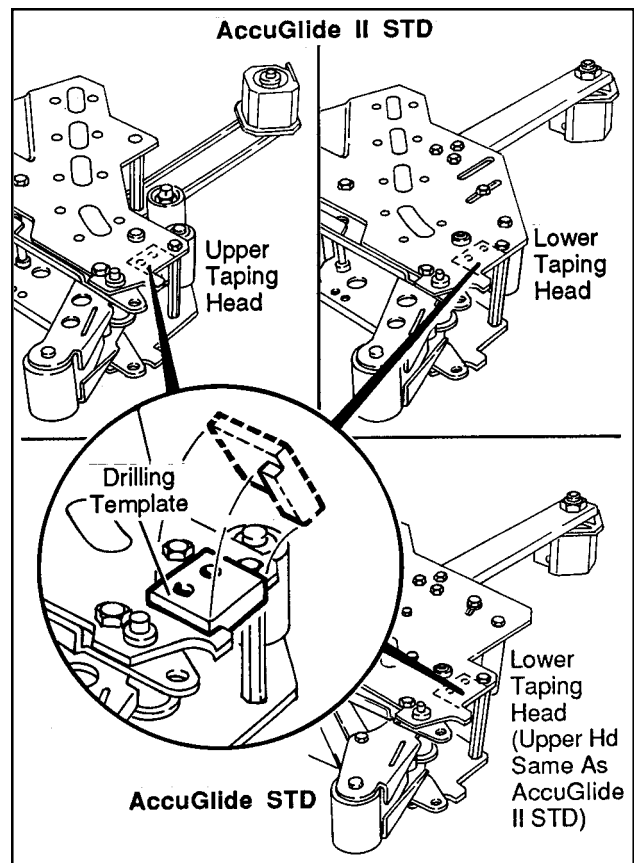

Figure 2-5
3. Place the drilling template provided in sensor kit, on the side plate of the taping head as shown in Figure 2-5.